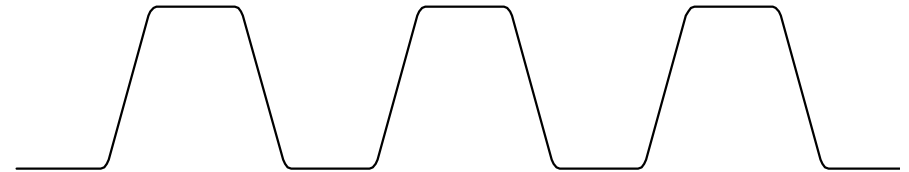

Figure 7 100 Hz VCO Control Line Waveform
**Note:** You may have to re-adjust RV2 and RV1 alternately to achieve a square wave on the VCO control line and a 4.5 kHz deviation. Figure 7 shows a typical 100 Hz VCO control line waveform with RV1 and RV2 set correctly.